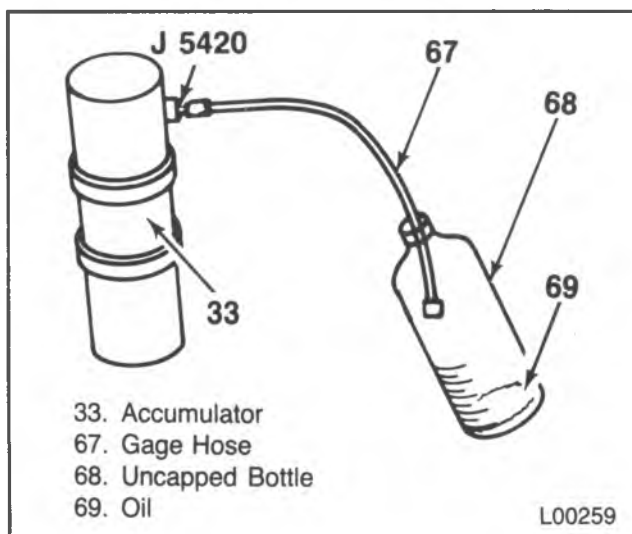

Figure 26 — Discharging without Charging Station J 23500-01
- a. If Charging Station J 23500-01 is not being used, discharge the system by slowly connecting a gage hose to the low side service fitting on the accumulator and discharge into a bottle (figure 26).